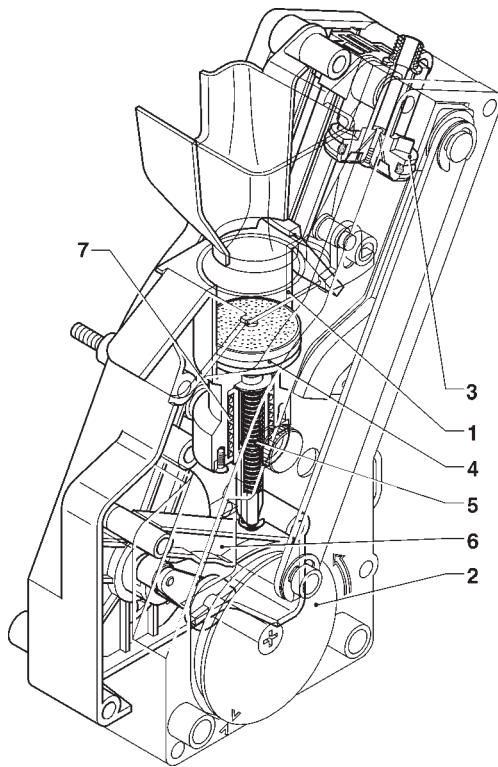

Fig. 16
When the ground coffee dose is reached, the ratiomotor engaged with the handle (2) located outside the assembly rotates by 180°, making the brew chamber swing and lowering the upper piston (3) (see Fig. 16).